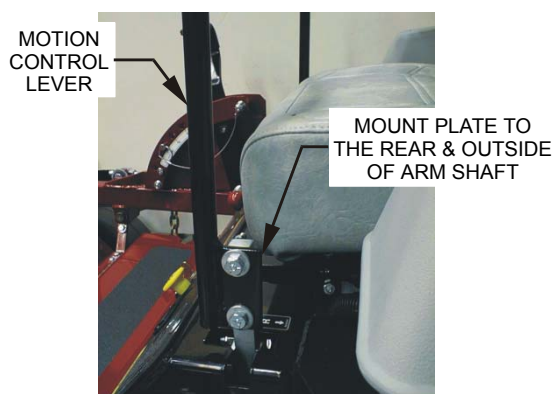

FIGURE 4
- 3.8.1 Loosen and remove the two (2) 3/8" x 1" bolts and spring disc washers which attach the motion control levers to the control arm shafts for shipping and the two (2) 3/8" x 1" bolts and spring disc washers which are screwed into the control arm shafts.
- Install the left motion control lever onto the control arm shaft (See Figure 4) on the left side of the console. Place the lever (with the mounting plate towards the rear) on the **outside** of the control arm shaft and secure with the bolts and washers. Position the lever so the bolts are in the center of the slots on the lever mounting plate and tighten until snug. Repeat on opposite side of unit.